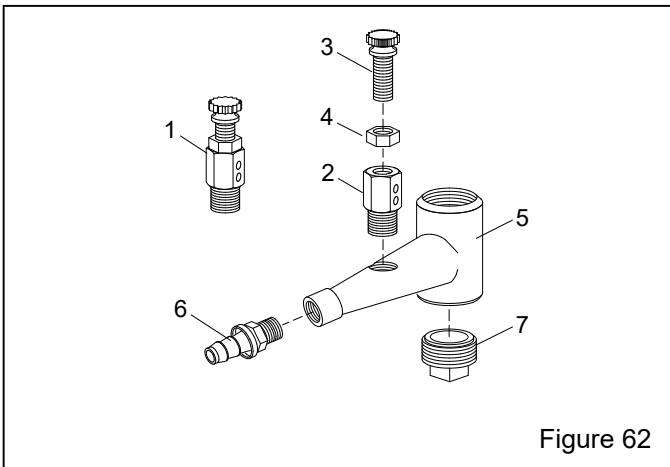

Figure 62
10.5 Metering Valve – Figure 62